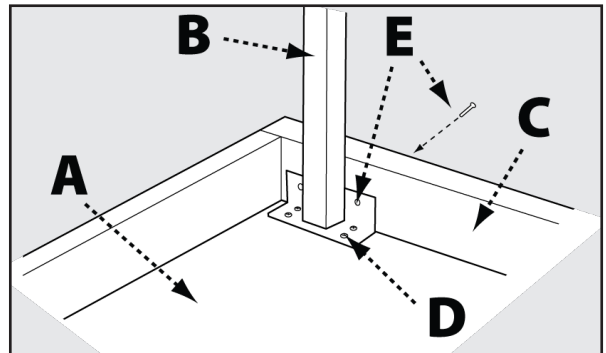

FIGURE 10
1. Lay the wood table (A) upside down on floor or bench.
2. Position legs (B) in corner as shown (Fig. 10) the vertical wall of the angle plate on the leg should be against the end wood wall (C) of the table.
3. Fasten the legs to the table board with eight #8 x 3/4" self-tapping screws (D).